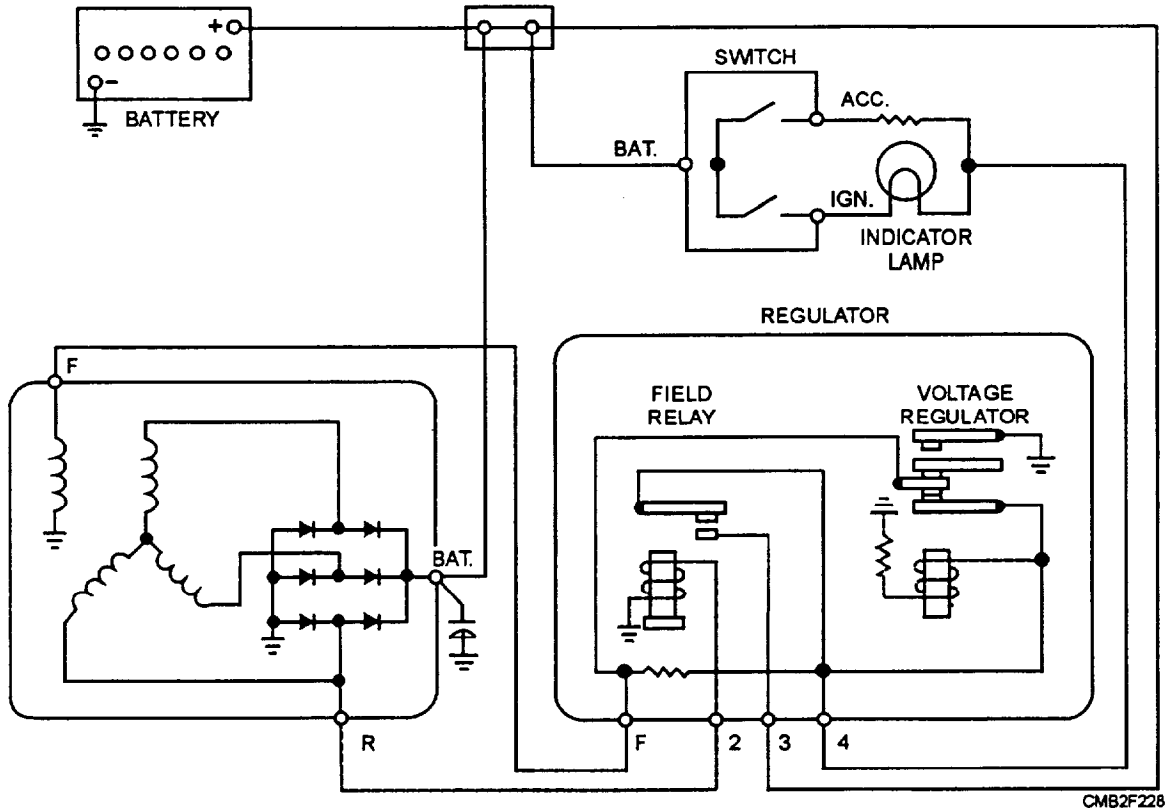

Figure 2-76.—No-charge indicator schematic.
2. NO-CHARGE INDICATOR (fig. 2-76) is set up to indicate whenever the alternator is not producing current.